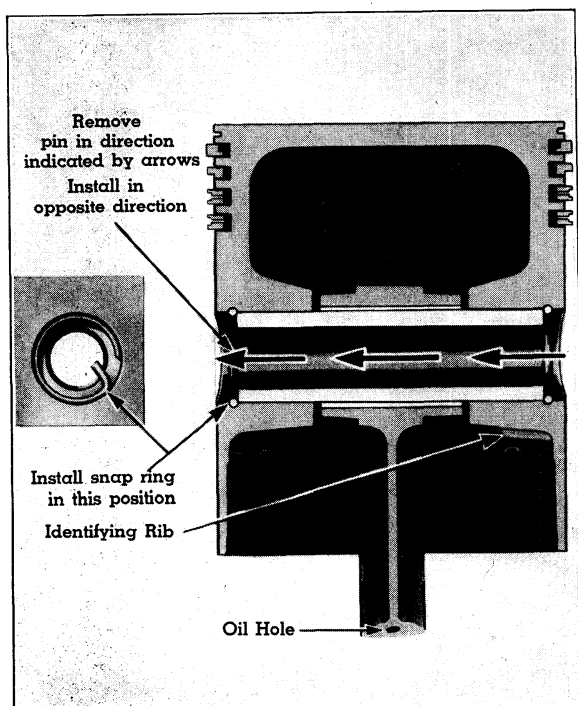

Fig. 22. Cross Section of Piston
3. Push piston pin out of piston by hand from raised rib side of piston hole boss as shown in Figure 22.